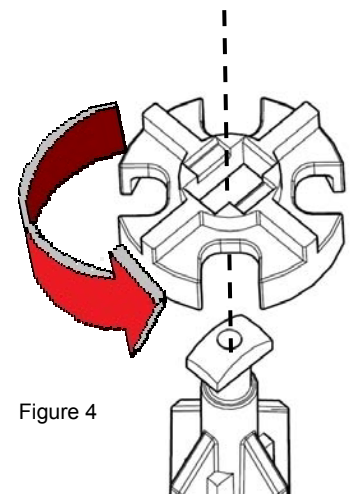

Figure 4
- 6) Push the Bypass Valve Retainer down slightly and rotate the retainer 90 degrees counter-clockwise. This will align the slot in the retainer with the key on the valve, allowing you to remove the retainer (Figure 4).